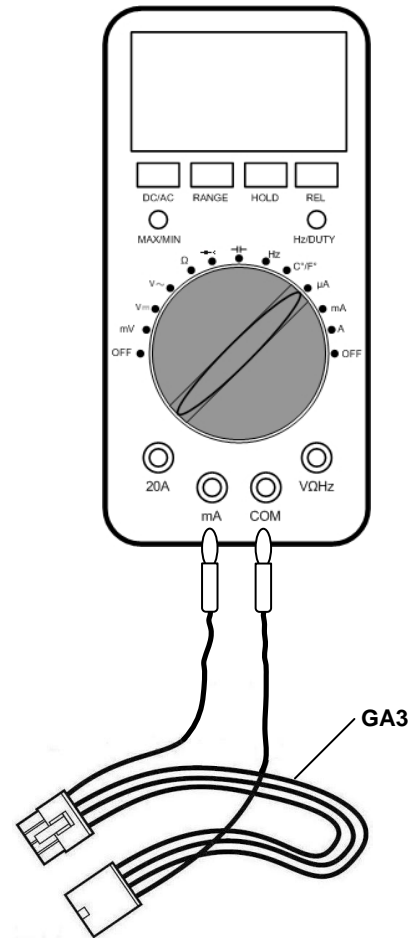

Figure 4
2. Connect the GA3 between the valve control and the pilot burner (**Figure 4**, IGNITER CONNECTOR).
3. Insert the meter plug connected to the valve side of the GA3 into the **mA terminal** on the meter as shown in Figure 4.
- a. Insert the male plug connected to the valve side of the Test Harness into the **mA terminal** shown in Figure 4.
- b. Insert the other male plug connected to the HSI element/flame rod side of the Test Harness into the **COM terminal** as shown in Figure 4.